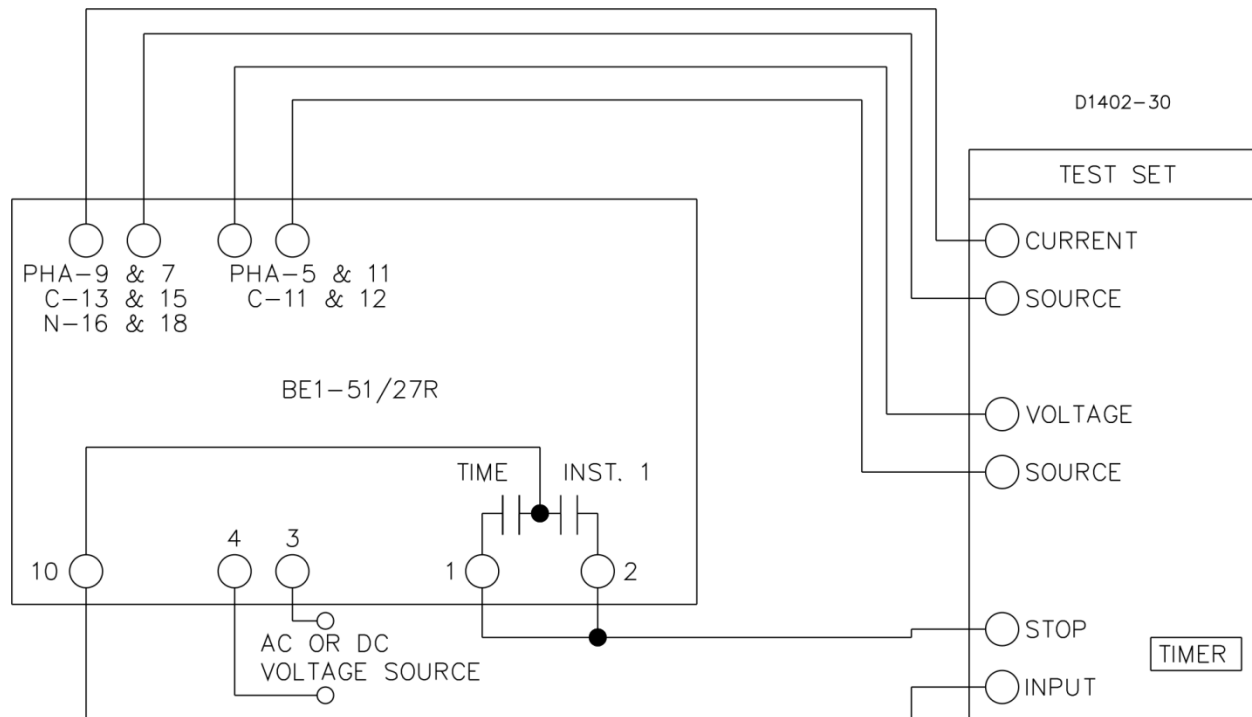

Figure 5-6. Test Setup for Sensing Input Type Y or Z (Two-Phase with Neutral Sensing)
- (f) Sensing Input Type Y or Z (Two-Phase with Neutral Sensing). Refer to Figure 5-6.
- (b) Sensing Input Type Y or Z (Two-Phase and Neutral Sensing). Remove the power and reconnect the input sensing to the remaining phases as shown in Figure 5-6, each time repeating Steps 1 through 10. For neutral testing, continue with Step 12.